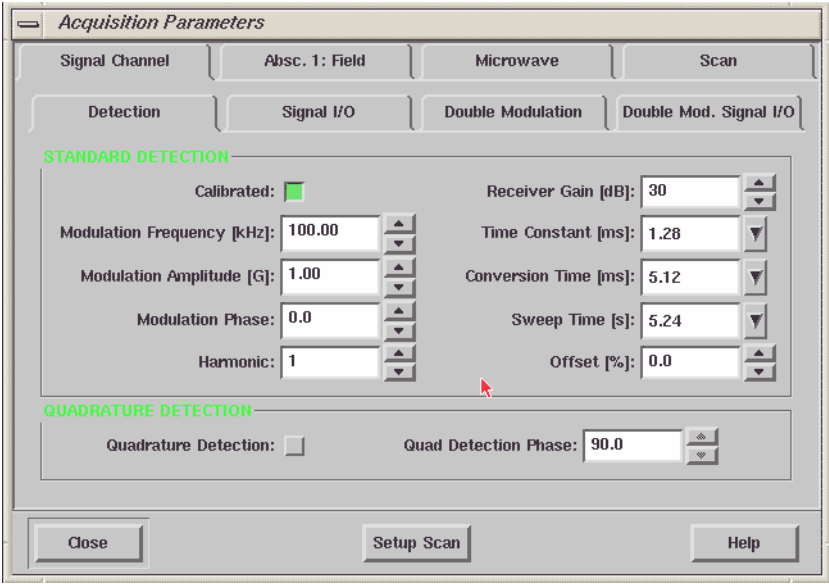

Figure 3-15 The signal channel parameters.
6. **Check the Signal Channel parameters.** Click the **Signal Channel** tab. The signal channel parameters are further split into four tabs. Click the **Detection** tab. Edit the parameters in the dialog box so that they match those shown in Figure 3-15. The other tabs in the **Signal Channel** tab are for advanced options and their default settings are OK for this experiment.